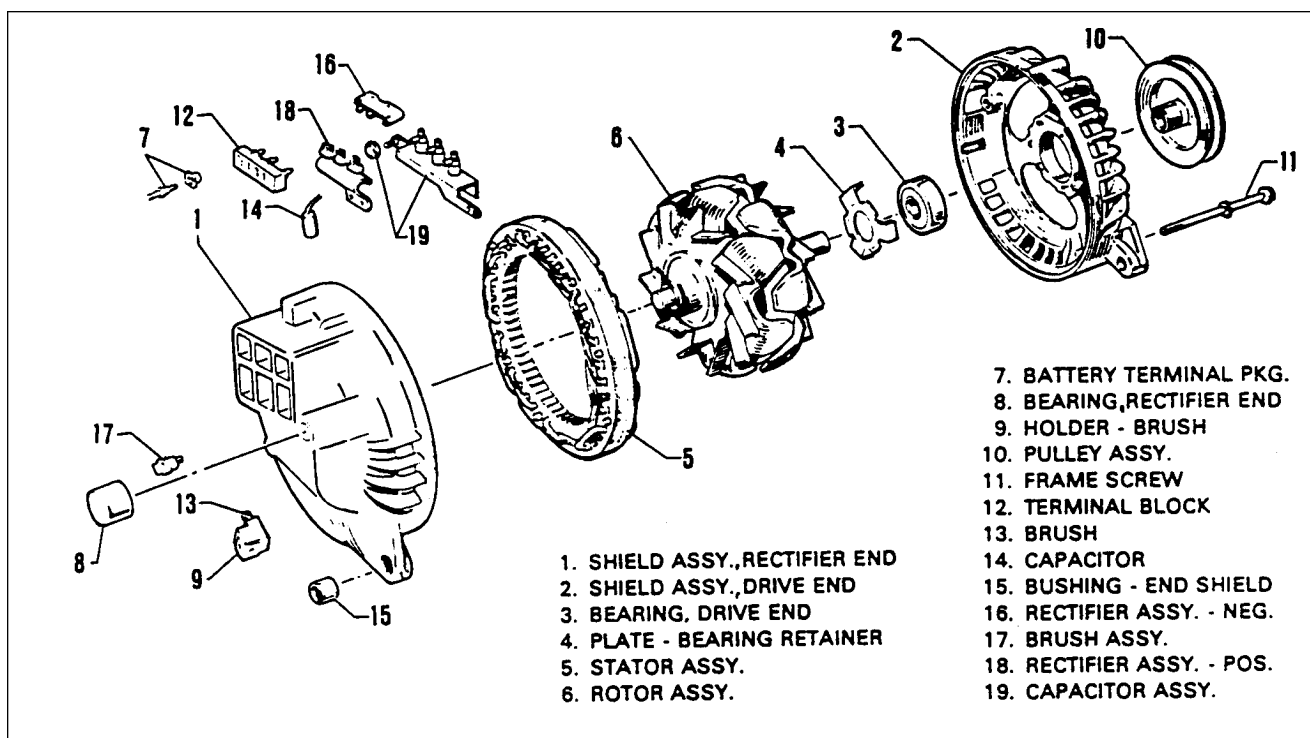

Figure 24 2. Exploded View of Alternator (Chrysler)
1. Remove ground brush and place one test probe of a 110-volt test lamp to field terminal. Attach remaining test probe to a machined surface at one of the alternator end shields. Test lamp should not light. (Refer to figure 24~.)